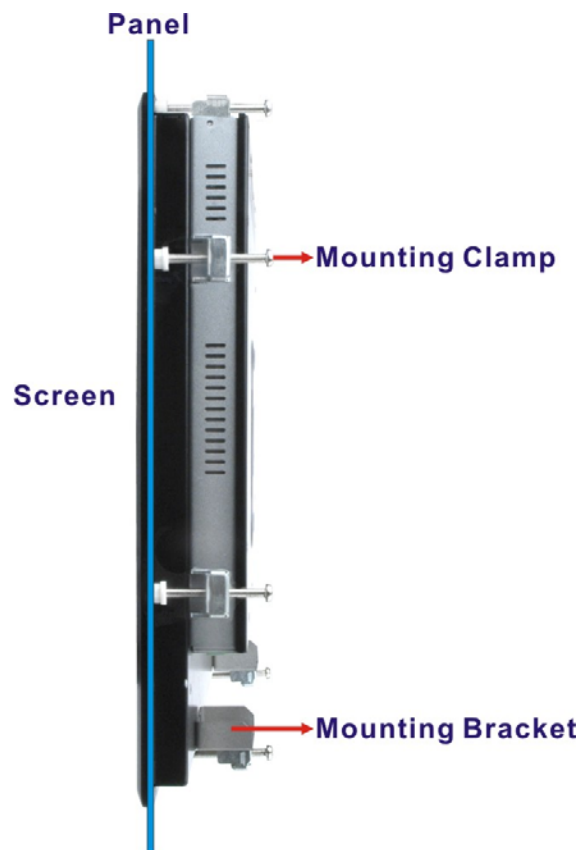

Figure 3-31: Tighten the Mounting Clamp Screws
- Step 5:** Insert the mounting clamps into the mounting brackets and pre-formed holes along the edges of the PPC-F12B/15B/17B/19B-BTi, behind the aluminum frame (**Figure 3-31**). The required number of mounting clamps may vary by models.
- Step 6:** Tighten the screws that pass through the mounting clamps until the plastic caps at the front of all the screws are firmly secured to the panel (**Figure 3-31**).